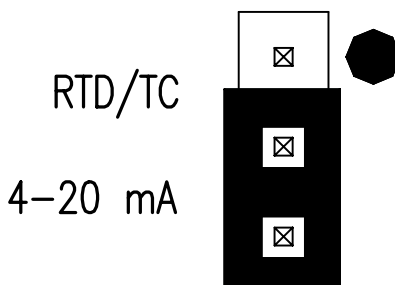
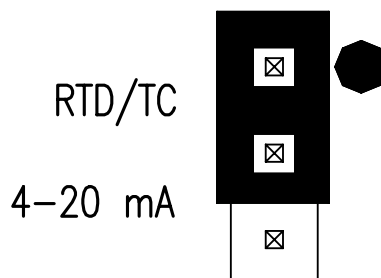

Figure 1 – Switches in position for 4-20mA Inputs
Figure 2 – Switches in position for RTD or Thermocouple Inputs
3. Look at the top of the CX224. There is one jumper for each channel located next to the corresponding channels terminal block. For all of the channels that will be used for 4-20mA inputs, set the jumper to the position away from the dot. Figure 1 shows a jumper in the position to allow 4-20mA loops. Leave the jumpers for the other channels that will be used for RTDs and thermocouples in the dot position. Figure 2 shows a jumper in the position for RTD and Thermocouple inputs.
The CX224 is now ready to accept 4-20mA inputs on the channels that are set like the jumper shown in Figure 1.
4-20mA – 4-20mA inputs use terminals B and C. The loop positive should be connected to the B terminal and the loop negative should be connected the C terminal. When configuring the CX224 for 4-20mA loops, you must set the DIP switch on the PCB toward the top of the CX224. This is shown in Figure 1 in the Pre-Installation Instruction section.